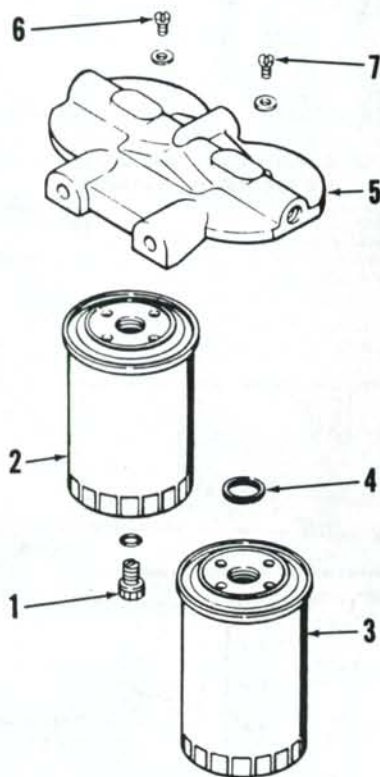

Fig. 66—Exploded view of dual filter and associated parts.
72. **FUEL FILTERS.** Fuel filters are spin-on type (Fig. 66). Filters are available in a kit which consists of both units and both should be renewed each 500 hours or when noticeable power loss occurs.
73. To bleed fuel system, be sure there is fuel in tank and that tank shut-off valve is open. Operate hand primer pump to fill preliminary filter bowl. Open bleed screw (6—Fig. 66) on top of first stage filter and actuate hand primer pump until air-free fuel flows through bleed screw opening. Close bleed screw (6) and open bleed screw (7), then continue pumping until air-free fuel appears. Close bleed screw (7) and actuate primer pump plunger several additional strokes to supply fuel to injection pump fuel gallery. Tighten hand primer pump plunger securely before attempting to start the tractor.
76. REMOVE AND REINSTALL. To remove injection pump, first shut off fuel and thoroughly clean pump, lines, connections and surrounding area. Align pump and crankshaft timing marks as outlined in paragraph 75 for convenience in reinstalling. Remove filter drain plug (1—Fig. 66) and drain filters. Disconnect throttle link and stop cable at pump. Disconnect and cap all